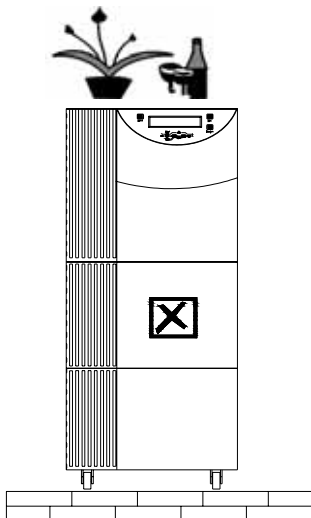

Figure9
5. Do not lay goods on the UPS. (Figure 9)